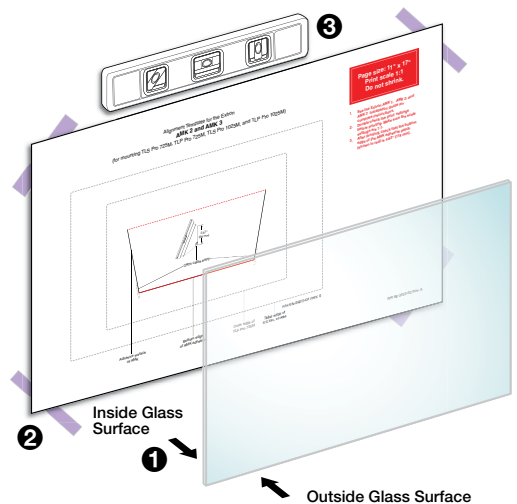

Figure 3. Placing the Template
- Place the alignment template on the **inside glass surface** (see figure 3, **1**). Use tape (**2**) to attach the alignment guide to the glass. Use a level (**3**) to ensure it is at the correct angle.